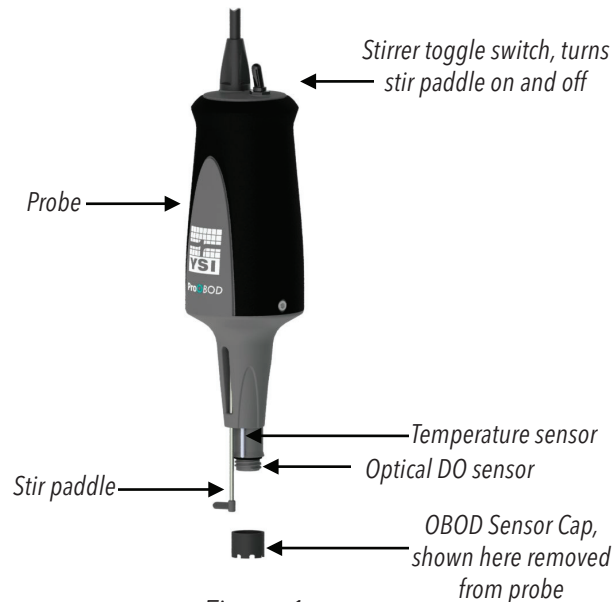

Figure 1
Throughout the manual, the term "probe" refers to the end of the cable where the sensor, stir motor and stirrer are located. The term "sensor" refers to the Optical Dissolved Oxygen sensing portion of the probe assembly and the term "sensor cap" refers to the removable sensing cap that is replaced about once every 12 to 18 months (Figure 1).
The stirrer can be turned on and off with the toggle switch located at the top of the probe (Figure 1).
2. Turn the stirrer on with the toggle switch located on the top of the probe (Figure 1). The stirrer helps keep solids from settling at the bottom of the sample bottle and quickens the sensor's response.
7. Clean the clear surface of the optical DO sensor window (figure 1) with a lens cleaning tissue.